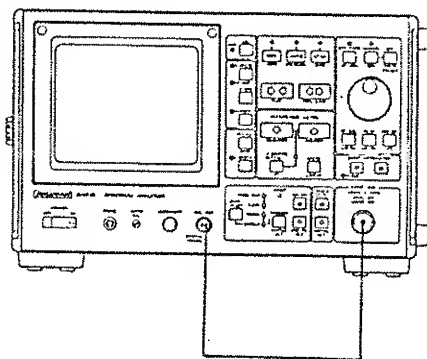

Figure 11-15 Resolution Bandwidth Switching Accuracy Test Setup
- ② Connect the CAL input to the INPUT connector. (See Figure 11-15.)
- ③ Set the span to 2 MHz, while turning the TUNING dial to center the waveform on the display screen.
- ④ Pressing the RBW switch, set the resolution bandwidth to 300 kHz.